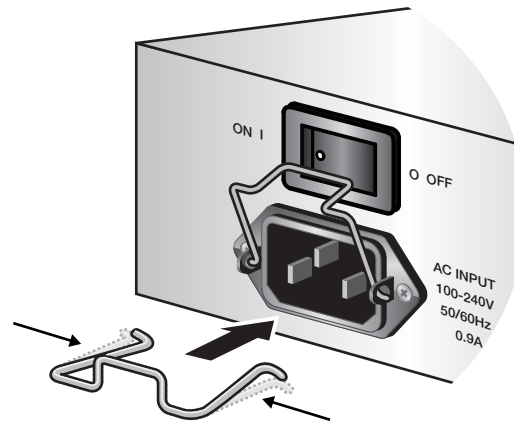

Figure 21. Inserting the retaining clip into the retaining bracket
2. Install the clip on the AC power connector on the power supply module. With the 'u' of the clip facing down, press the sides of the clip forwards the center and insert the short ends into the holes in the retaining bracket, as shown in Figure 21.